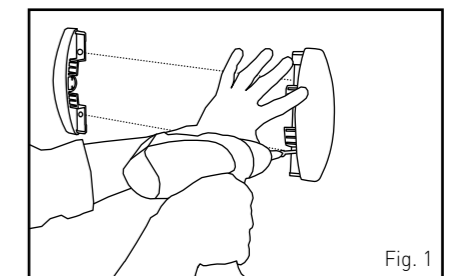

Fig. 1
- Drill into the wall, fit the plugs and then fix the end pieces and angle pieces onto the wall (see Fig. 1).